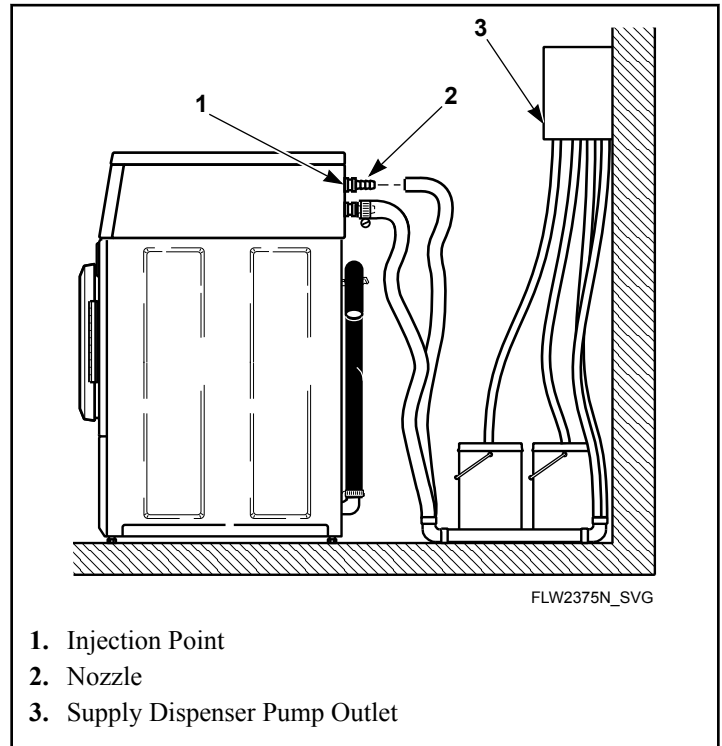

Figure 20
2. Attach nozzles to rear of machine. Connection point located on cabinet, above water mixing valve. Refer to *Figure 20*.
3. Connect supply hoses to nozzles and secure with hose clamps (obtain locally). Refer to *Figure 20*.